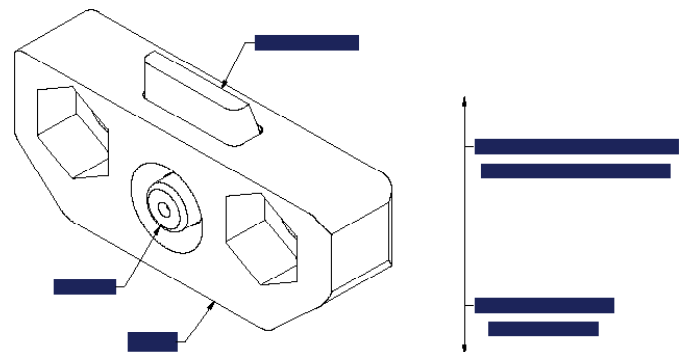

Figure 4-2, Quick Change Hook
3. Remove the lower bolt-on hooks and, if applicable, make a note of any factory installed shims. Shims are used to create clearance between the hook and carriage. If the attachment is equipped with Quick Change Hooks, simply depress the button on the back of the hooks, allowing the slide plate to drop. Removal of the Quick Change Hooks is NOT recommended. (Figure 4-2)